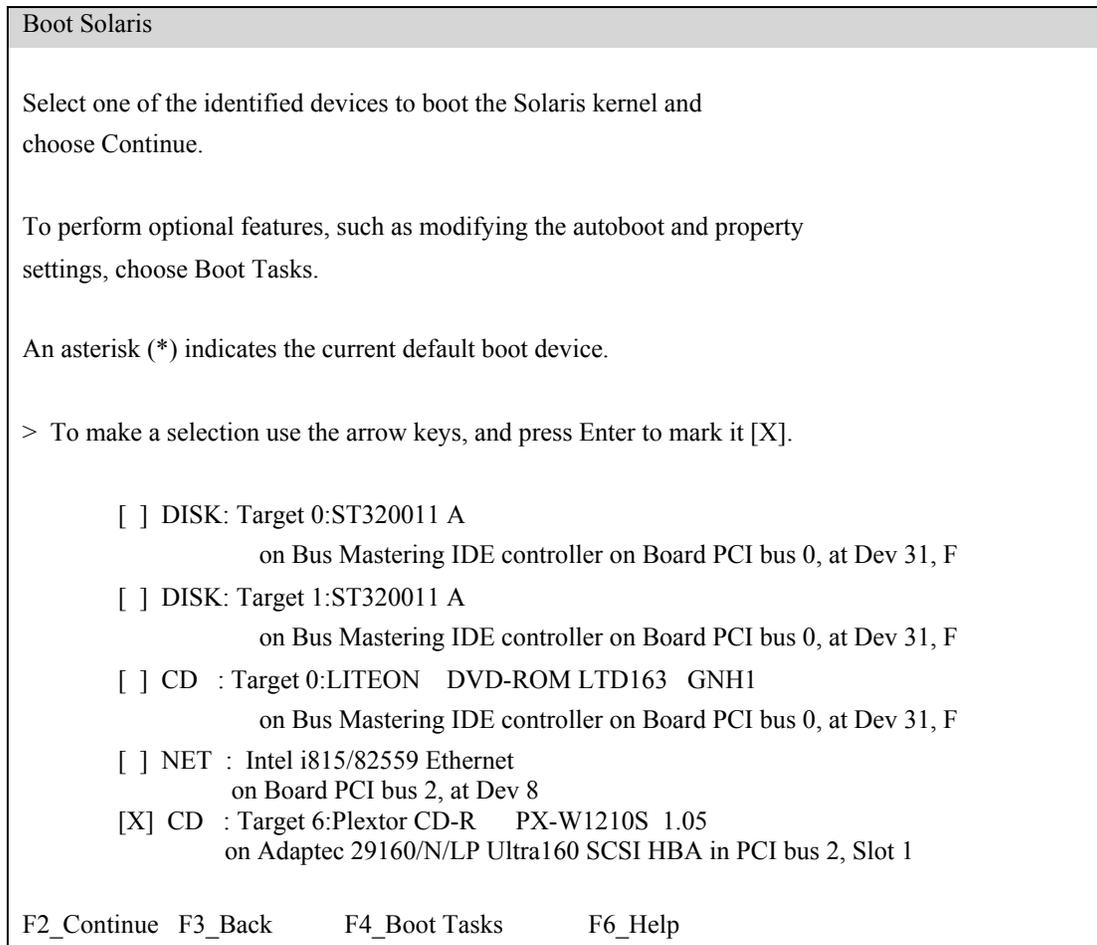

Figure 3-21 Boot Solaris Screen
10. The “Boot Solaris” screen (Figure 3-21) is displayed.